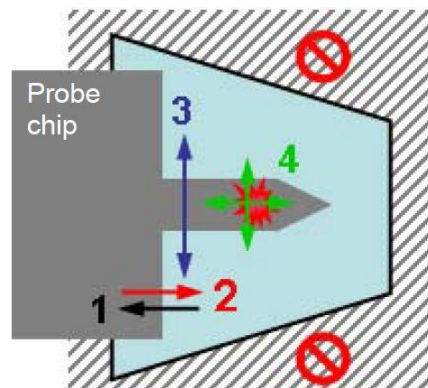

Figure 6. Laser alignment pattern
- 1.6 Check and ensure that the laser spot is positioned on the cantilever beam. If not, adjust the LDX, LDY laser positioning thumbwheels to position the laser spot onto the cantilever beam and maximize the SUM reading (Figure 6).